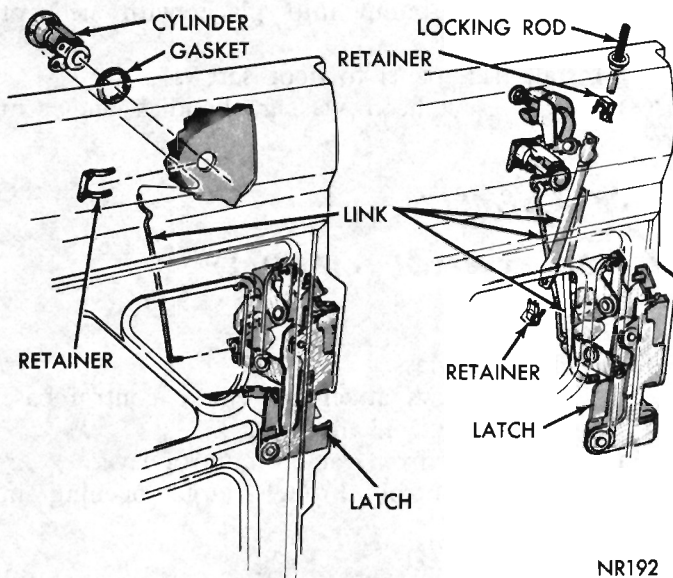

Fig. 15 - Door Lock Cylinder
- (1) With window in the up position, disconnect cylinder link (Fig. 15) from clip on lock lever (**4 door only**) and from cylinder.
- (2) On **2 door models** disconnect lock link from clip on lock lever, remove link control bracket mounting screws and remove cylinder link from cylinder.
- (3) Remove retainer from cylinder body and cylinder from door.